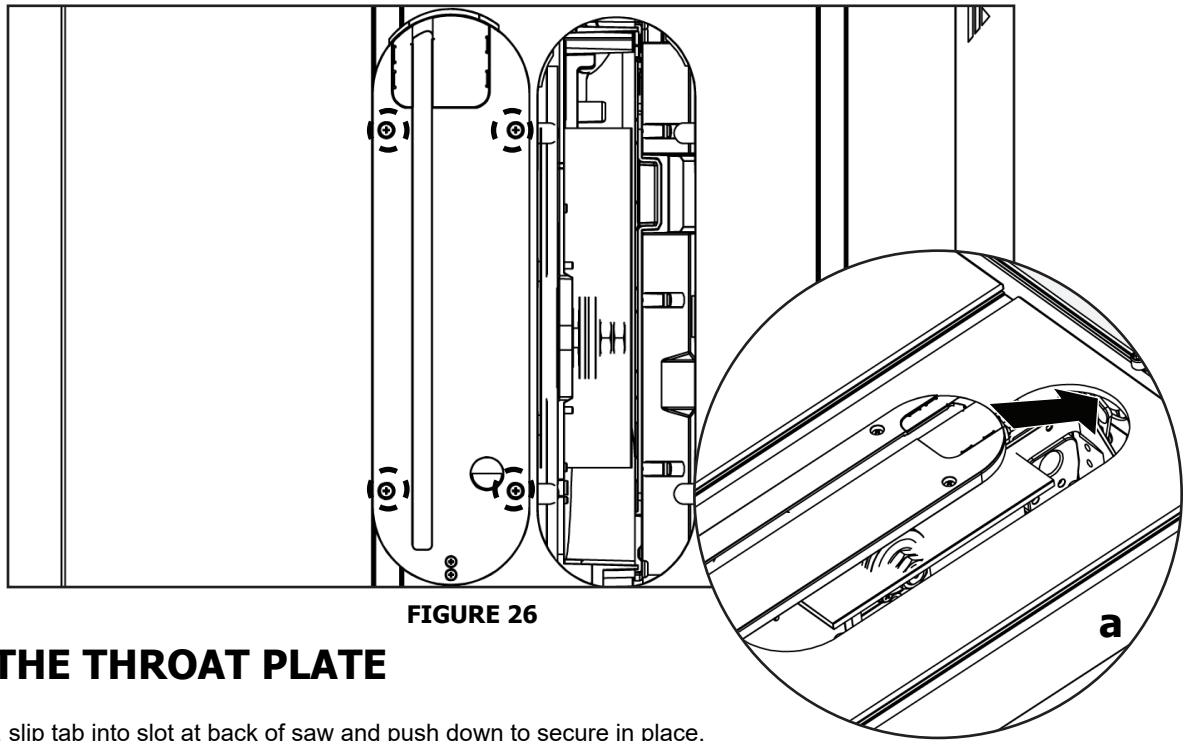

FIGURE 26
To install throat plate, slip tab into slot at back of saw and push down to secure in place. See Figures 26 & 26a.
Place a framing square (B) on the table surface and against both blade and riving knife. The framing square should be in full contact with the blade face and riving knife. See Figure 26.